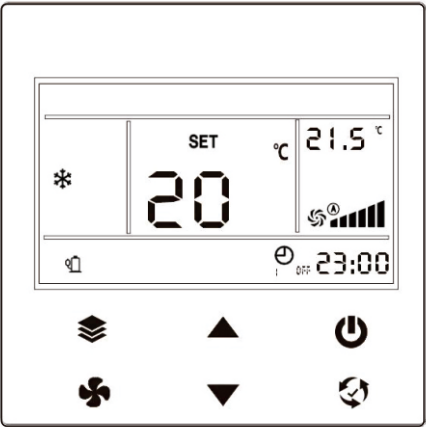

Figure11. The timing setting is completed,and the timing taskclosest to the current time is displayed by default
5. After the timing of the time period is completed,the timing time stops flashing,and the timing task that will be executed first is displayed.For example,the current time is 10:00 and the unit is in the power-on state,and the unit shutdown task at 23:00 in period 1 will be executed first. The display interface is shown in Figure11